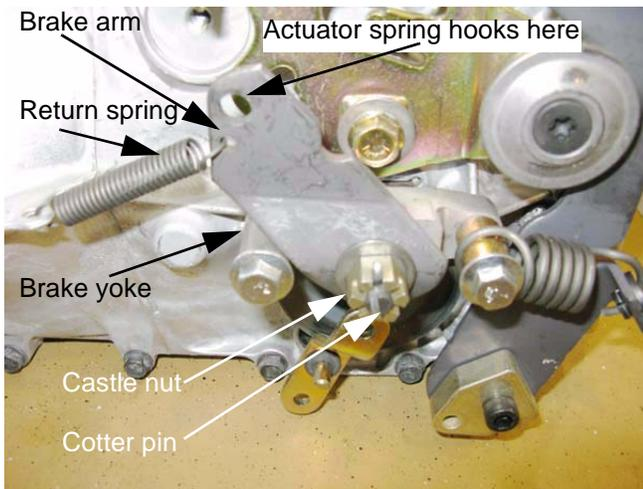

Figure 5.65
1. The brake yoke is located on the right side of the transaxle. See Figure 5.65.